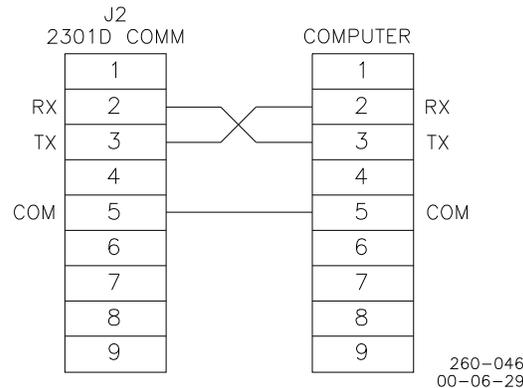

Figure 4-1. RS-232 Communication Cable
- An RS-232 communication cable wired according to Figure 4-1